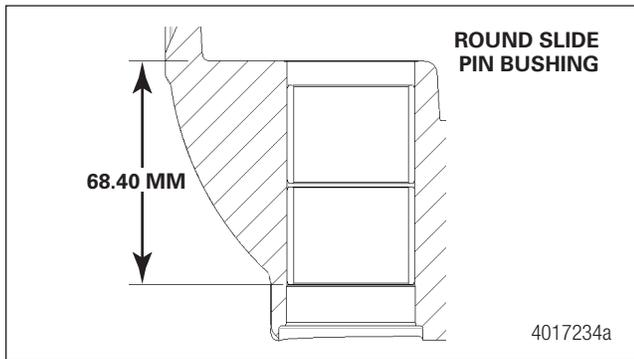

Fig. 8.11 Round Slide Pin Bushing Depth
STEP 3 - Repeat Steps 1-3 to install the second bushing, but insert the bushing from the end cap side of the bore. To confirm the correct position for the second bushing, measure the distance from the same end face of the housing (on the boot retainer side of the bore) to the bottom of the second bushing. The measurement should be 0.29-inch (7.4 mm). Figure 8.11.